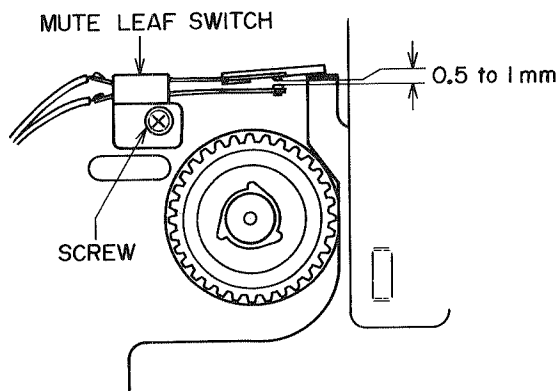

Fig. 5 Mute Switch Adjustment
4. MUTE SWITCH ADJUSTMENT (Refer to Fig. 5)
When in the playback mode, the space should be 0.5 mm to 1 mm as in Fig. 5.